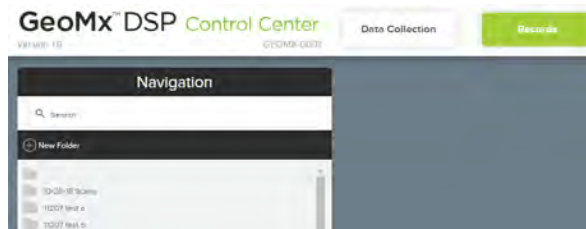

Figure 53: GeoMx DSP Control Center Navigation window under Records
1. Select the **Records** button in the DSP Control Center (see Figure 53).